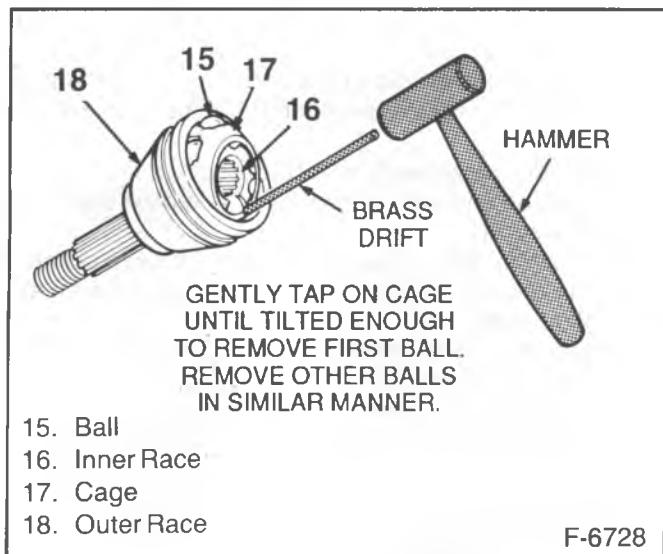
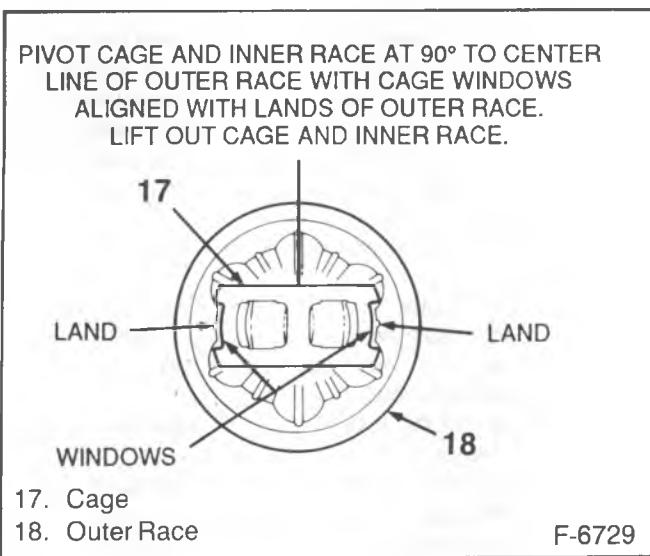
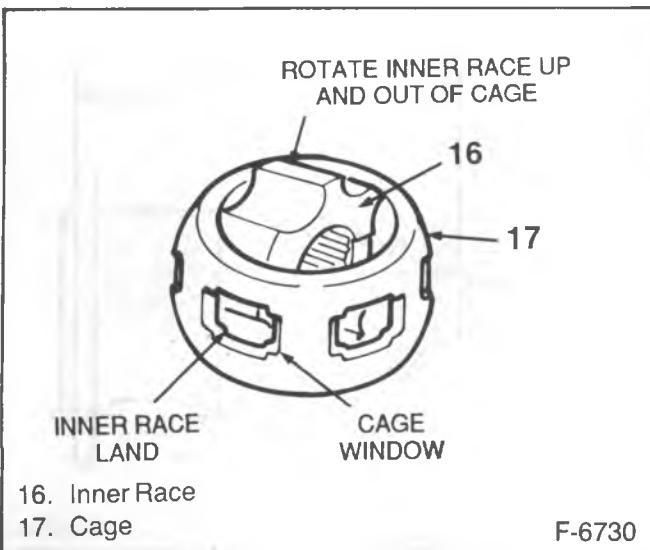

Figure 48—Removing C/V Joint Balls
Figure 49—Separating Outer Race and Cage
Figure 50—Separating Inner Race and Cage
- Use a brass drift and a hammer to gently tap on the C/V joint cage (17) until it is tilted enough to remove the first chrome alloy ball (15) (see figure 48).
- Tilt the cage (17) in opposite direction to remove opposing ball (15).
- Repeat this process until all six balls (15) are removed.
- Position the cage (17) and the inner race (16) 90° to the center line of the outer race (18) and align the cage windows with the lands of the outer race (see figure 49).
- Separate the cage (17) and the inner race (16) from the outer race (18).
- Rotate the inner race (16) 90° to the center line of the cage (17) with the lands of the inner race aligned with the windows of the cage (see figure 50).
- Pivot the inner race (16) into the cage (17) window and remove the inner race.